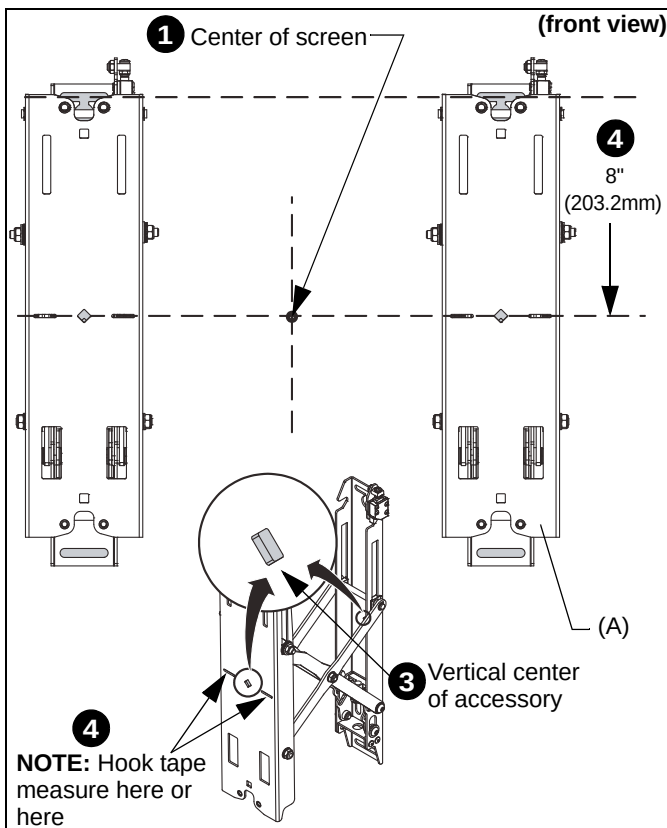

Figure 1
3. Line up the diamond cutouts on Fusion pullout (A) with center of screen marking to determine vertical center. (See Figure 1)
2. Line up the notches on accessory (A) with center of screen marking to determine vertical center. (See Figure 1)
3. Measure up 8" (203.2mm) from the center point to mark location of the upper mounting slots. (See Figure 1)